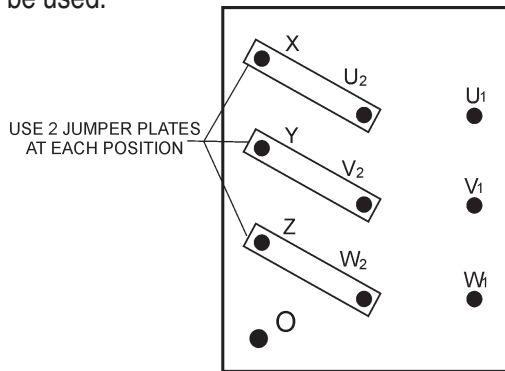

Figure 25. Voltage Change-Over Board 480V Configuration
1. Jumper the voltage change-over board for 480V operation as shown in Figure 25. This configuration uses 6 jumper plates in 3 different positions. Remember there are 2 jumper plates at every position. Every jumper plate **must** be used.
1. Make sure the voltage change-over board is jumpered for 480V operation as shown in Figure 25.